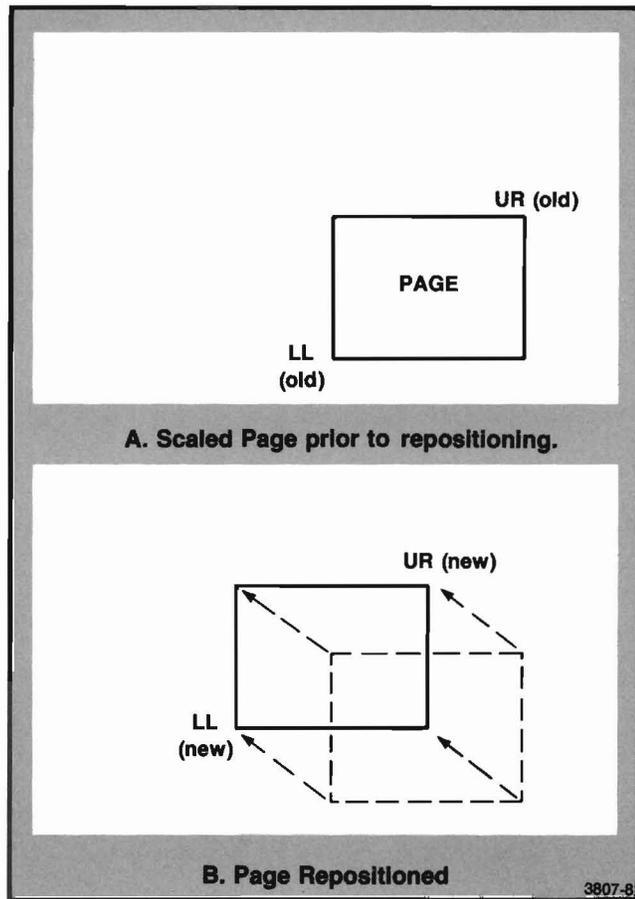

Figure 2-8. Page Positioning.
This completes the procedure for repositioning the Page. As shown in Figure 2-8, notice that moving the lower-left (LL) corner also moves the upper-right (UR) corner. This maintains the same Page size. The newly positioned Page corner boundaries can be verified by first momentarily pressing the LOWER LEFT switch and then pressing the UPPER RIGHT switch. The crosshair cursor travels to the respective corners of the Page.